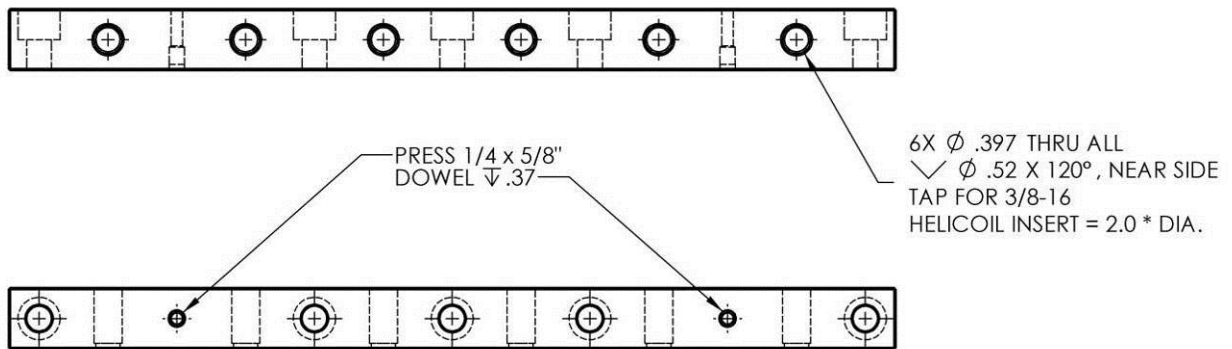

Figure 67: Prep Work for D0901535 Bracket, Lower Outer Wall, Top
(2) 1/4" x 5/8" dowel pins
- Install Nitronic 60 Helicoil threaded inserts into D0901535. See Figure 67.
- Press (2) 1/4" x 5/8" dowel pins into D0901535 as shown on Figure 67. Pins should sit about 0.4" above the surface.